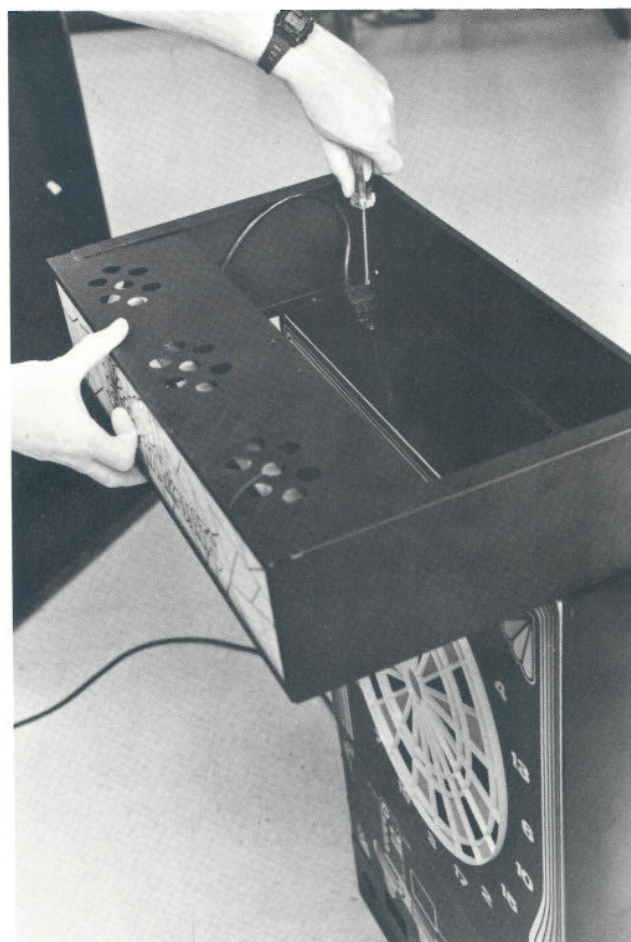

Figure 2. Top light is attached to top of dart board.
- b) Plug light into top receptacle (see Figure 2).